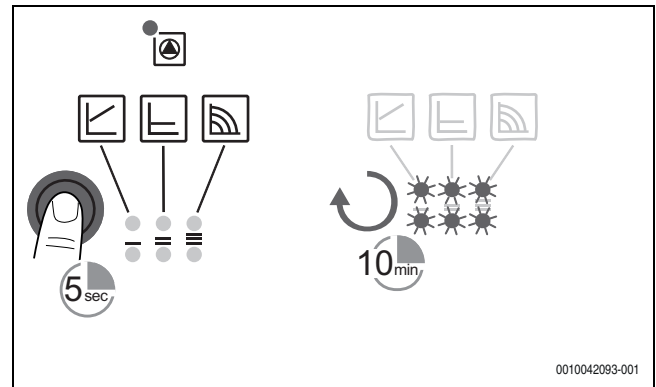

Fig. 38 Manual restart
- Activate manual restart via the operating button (→ fig. 38) : press and hold for 5 seconds, then release.